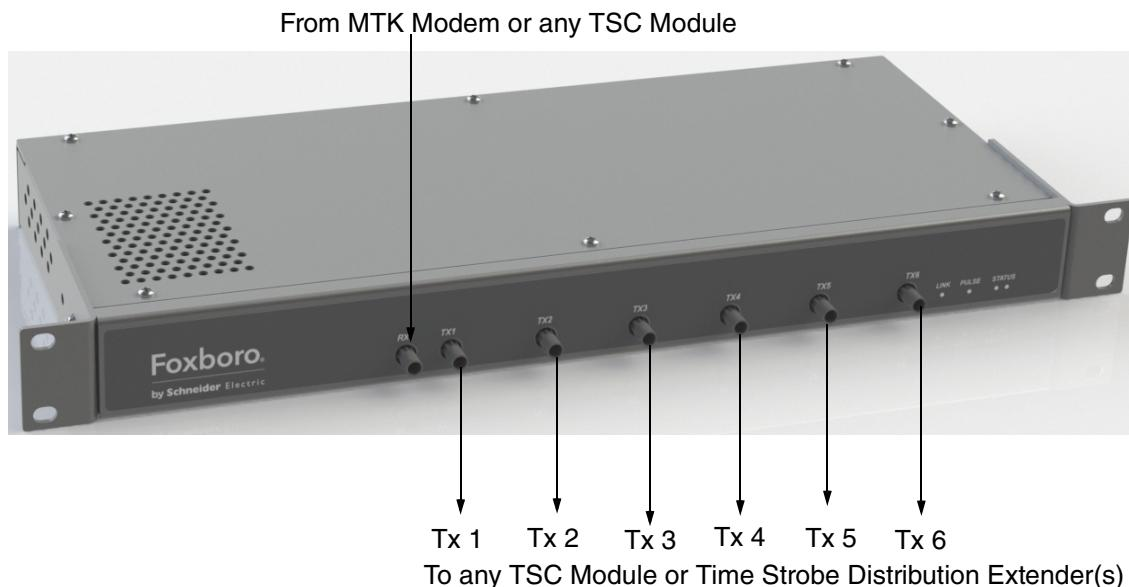

Figure 5-62. Time Strobe Distribution Extender (RH100AM Shown), Cable Connections
2. Connect the multi-mode fiber cable with ST connectors from one of the outputs of the MTK modem to the Rx 1 input of the extender (either type), as shown in Figure 5-62. The MMF-compatible extender can alternatively accept an input from a TSC module. For each connection, proceed as follows: